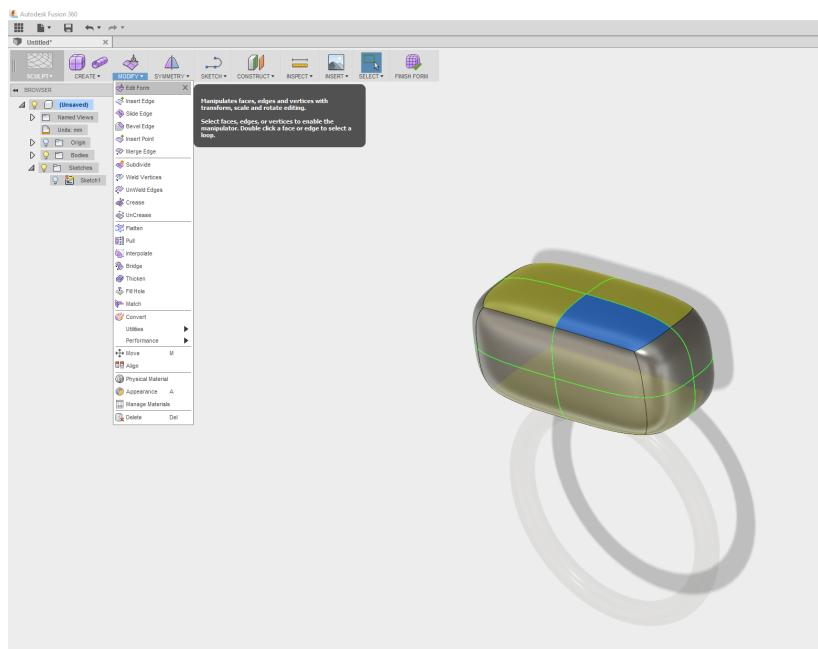
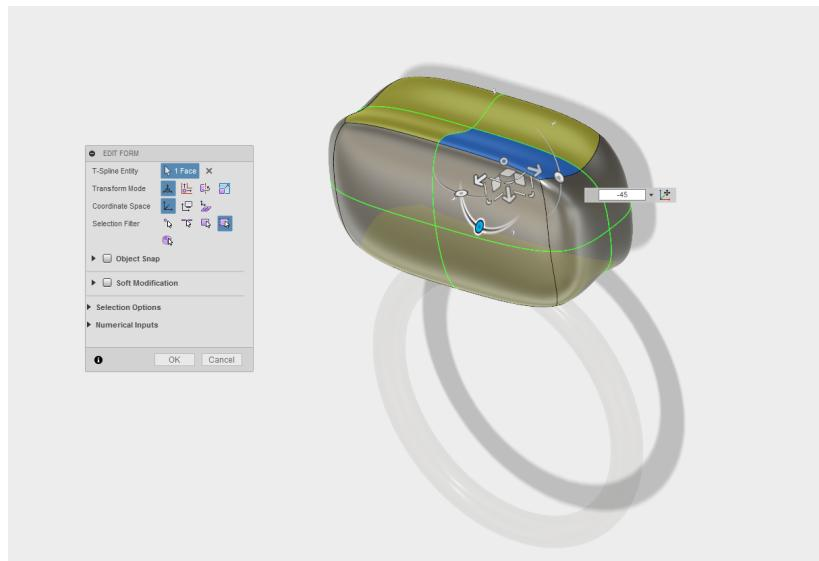

Figure 11-16. A face of the box has been selected, turning it blue. The Modify function has been selected.
Figure 11-17. Twisting the faces inward using one of the manipulator widget handles
19. Hover your mouse on top of the box. Click one of the top faces and it will turn blue as shown in Figure 11-16.
20. On the top menu bar click the down arrow under Modify and select Edit Form as shown in Figure 11-16. A manipulator widget will appear, and as you drag those various arrows and sliders, your form will change as shown in Figure 11-17. You
21. Click the slider circle as shown in Figure 11-17 and move that upward a bit. This will rotate the plane inward. Because you have symmetry turned on, all of the other faces will turn inward as well.
22. Turn that slider to -45 degrees as shown in the white entry window in Figure 11-17. Don't worry about changing any other settings in the pop-up window.